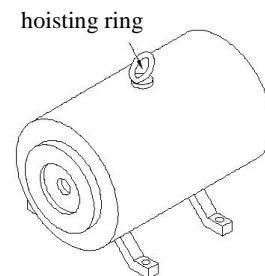

figure 2-80
(6) Hoisting directions for working motor see figure 2-80